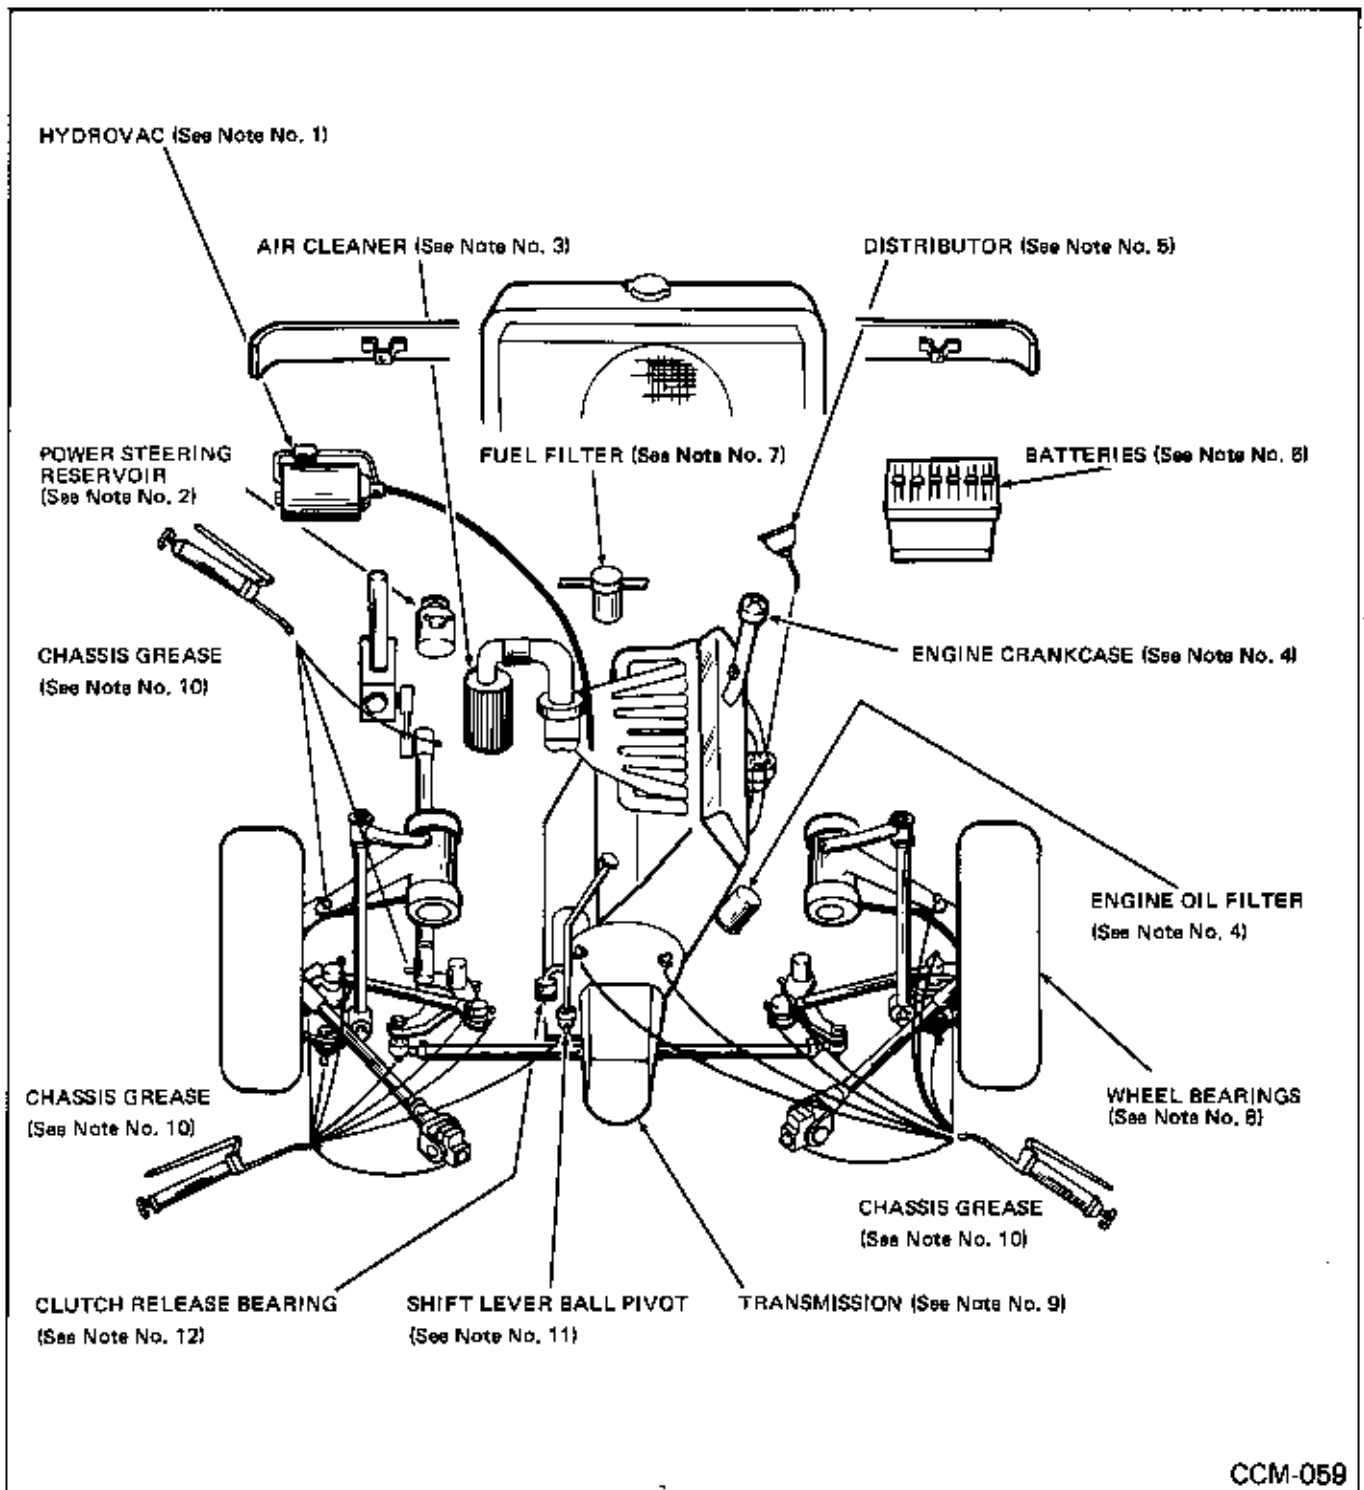

Fig. 54
A grease cup is used to lubricate the clutch release bearing and is accessible from beneath the vehicle. Rotate the cup one (1) complete turn every 3,000 miles. When it is necessary to refill the grease cup, use a Clutch Release Bearing High Temperature Grease (Shell 5A, Texaco 1199 or equivalent). Refer to lubrication chart Fig. 54